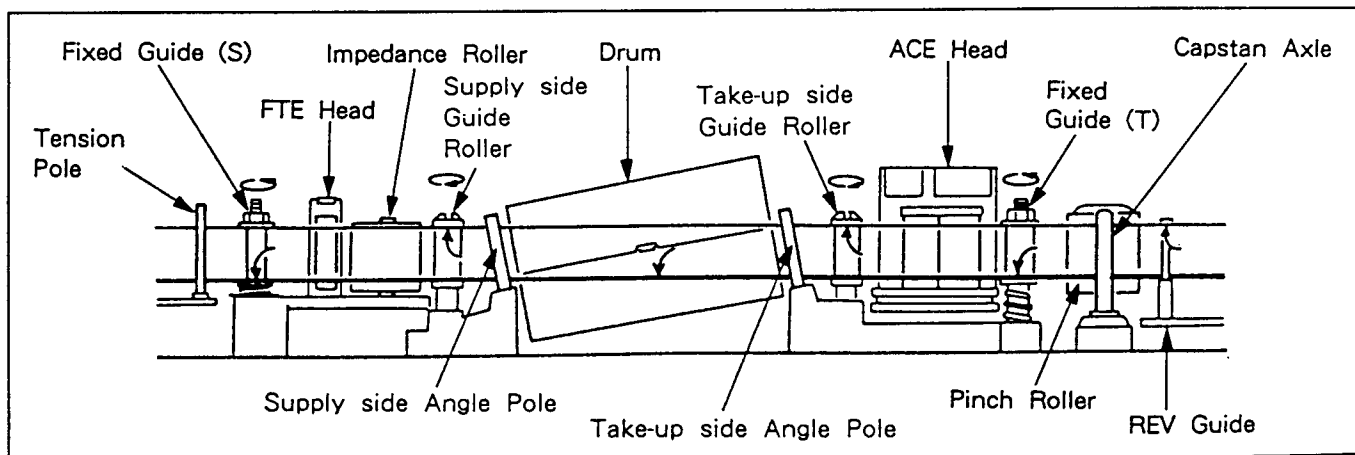

Fig. 5-4-10
- 6) In the PLAY mode, confirm that the tape runs as shown in Fig. 5-4-10.